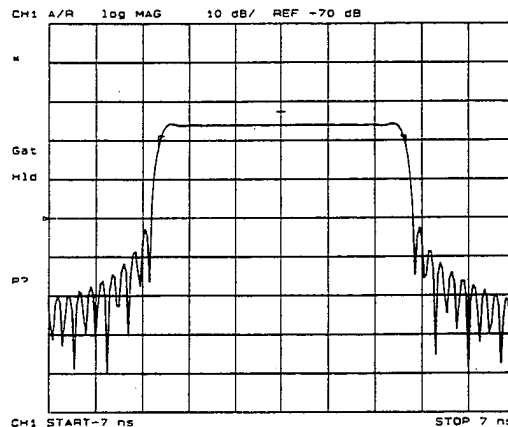

Figure 10-39. Gate Shape
**Setting the Gate.** Think of a gate as a bandpass filter in the time domain (Figure 10-39). When the gate is on, responses outside the gate are mathematically removed from the time domain trace. Enter the gate position as a start and stop time (not frequency) or as a center and span time. The start and stop times are the bandpass filter  $-6$  dB cutoff times. Gates can have a negative span, in which case the responses *inside* the gate are mathematically removed.